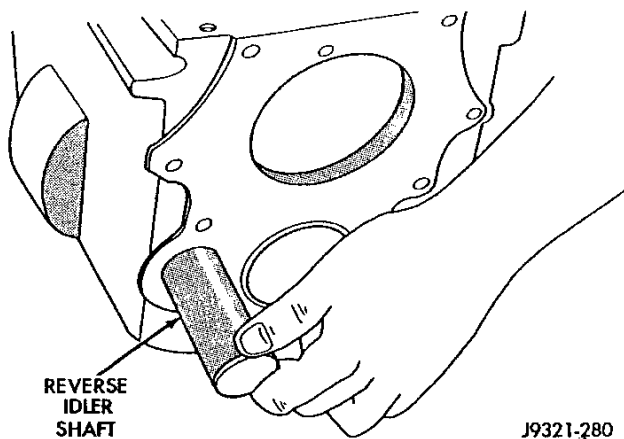

Fig. 52 Idler Shaft Installed Part Way In Case
(1) Install reverse idler shaft part way into case (Fig. 52).